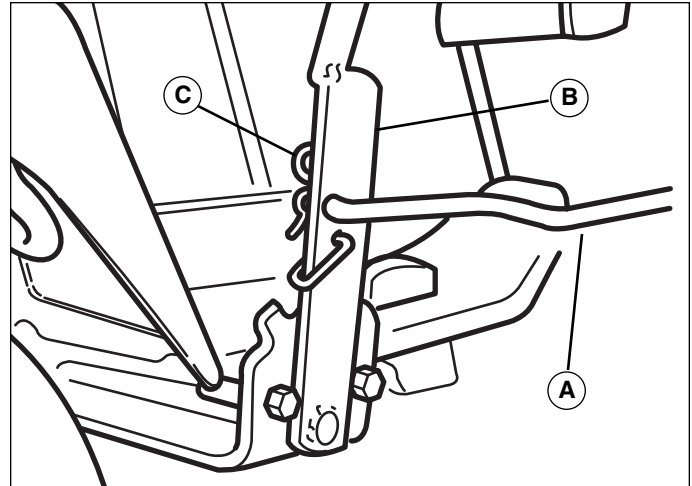

Figure 19. Installing Lift Rod to Manual Lift Lever
3. See Figure 19. Connect rear of lift rod (A) to manual lift lever (B), and secure with spring clip (C).